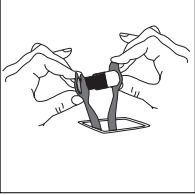

Figure 2, Abbildung 2, Figura 2, 图 2
2. With the capsule inverted, SLOWLY press the plunger end of the capsule against a flat surface (see figure 1) until the flange of the plunger is flush with the capsule body (see figure 2). **THIS IS MOST IMPORTANT.** Initially, resistance will be felt, then suddenly released as the plunger pierces a diaphragm allowing the mercury to enter the mixing chamber.